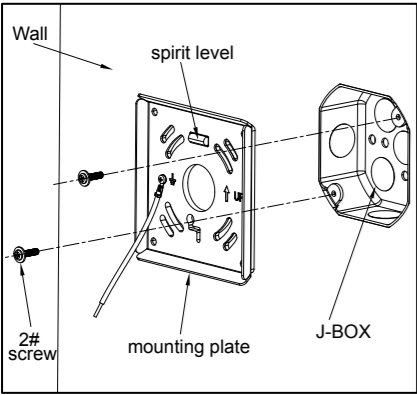

Figure 4
- 1. Fix the mounting plate on the J-BOX on the wall with 2# (8-32) screws, and use the level gauge on the mounting plate to ensure that the installation is in a horizontal state; (Figure 4)